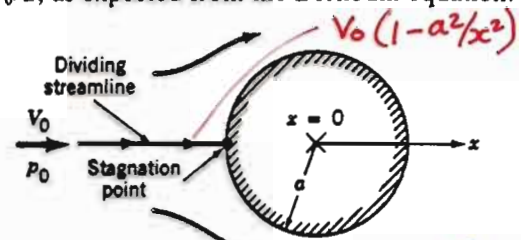

FIGURE P3.3
3.3 An incompressible fluid flows steadily past a circular cylinder as shown in Fig. P3.3. The fluid velocity along the dividing streamline ( $-\infty \leq x \leq -a$ ) is found to be  $V = V_0 (1 - a^2/x^2)$ , where  $a$  is the radius of the cylinder and  $V_0$  is the upstream velocity. (a) Determine the pressure gradient along this streamline. (b) If the upstream pressure is  $p_0$ , integrate the pressure gradient to obtain the pressure  $p(x)$  for  $-\infty \leq x \leq -a$ . (c) Show from the result of part (b) that the pres-